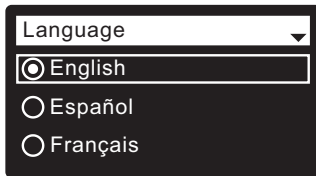

FIG. 10
- 1. LANGUAGE** If the desired language already has a dot next to it (See Figure 10), go to Step 2. Otherwise, press the conditioner/refiner’s DOWN (▼) or UP (▲) buttons to scroll to the desired language, then press the SELECT (○) button to choose it.